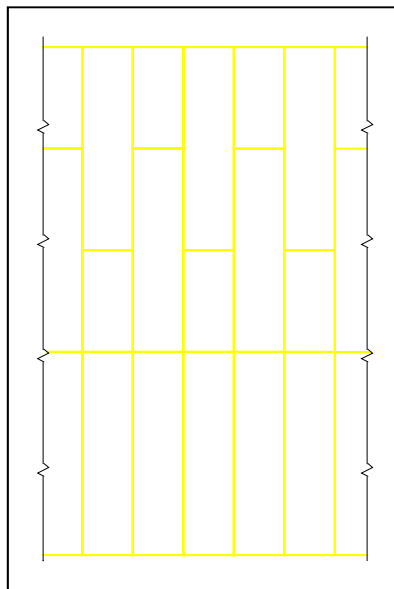

Figure 1
- A. Hand set modular forms, such as Symons hand set steel-ply forms, shall be placed with no more than two intersecting joints occurring at one level in the formwork above the bottom modular form level. Figure 1 illustrates the required form pattern.